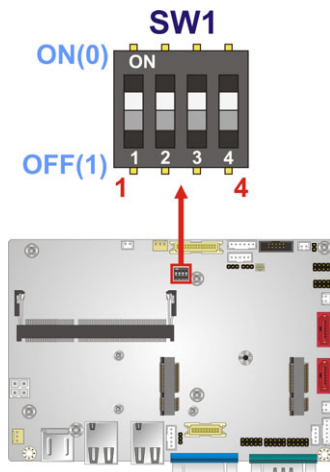

Figure 4-6: LVDS2 Panel Type Selection Switch Location
- Jumper Location:** See Figure 4-6